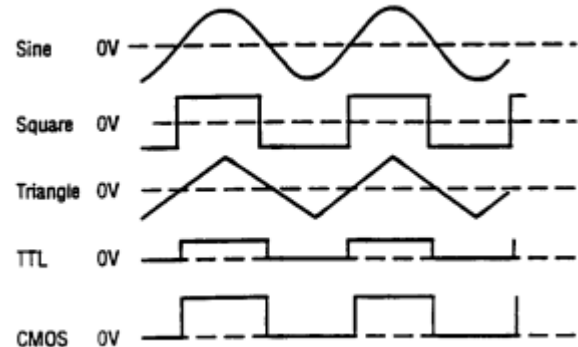

Figure 2. Output Waveform and Phase Relationship
1. Initially, verify that the **DUTY CYCLE** (2), **CMOS LEVEL** (3), **DC OFFSET** (4), **-20dB** (5), and **SWEEP EXT/INT** (22), and **AM/FM** (35) switches are in the released position. This will produce a symmetrical waveform unaffected by the sweep generator and other controls.
2. Plug the unit into an appropriate power source and turn it on by depressing the **POWER** switch (1).
3. Select the desired waveform (SINE, SQUARE, or TRIANGLE) by depressing one of the **FUNCTION** switches (9). Phase relationships of the waveforms are shown in Fig. 2.
4. Select the frequency of the waveform by depressing one of the **RANGE** switches (6). The output frequency is displayed, along with the appropriate measurement units. **KHz** or **Hz** (31), on the LED display.
5. Rotate the **COARSE** (28) frequency control to quickly set the output frequency to the approximate desired value. The **FINE** (26) frequency control can then be used to easily set the output to the specific desired value. The frequency selected is available at the **OUTPUT** jack (13). In addition, a digital signal, either TTL or CMOS is available at the **TTL/CMOS** jack (15) (refer to the “TTL/CMOS OUTPUT” section of this manual).